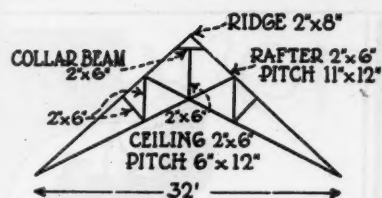

FIG. 2-ROOF TRUSS TO CARRY CEILING
**Question:** If the scissors truss shown in the sketch, Figure 2, carries a plastered ceiling, is the construction shown strong enough? Can you find the strains in the different members for me? The trusses are to be two feet apart and the covering is sheathing and composition shingles.